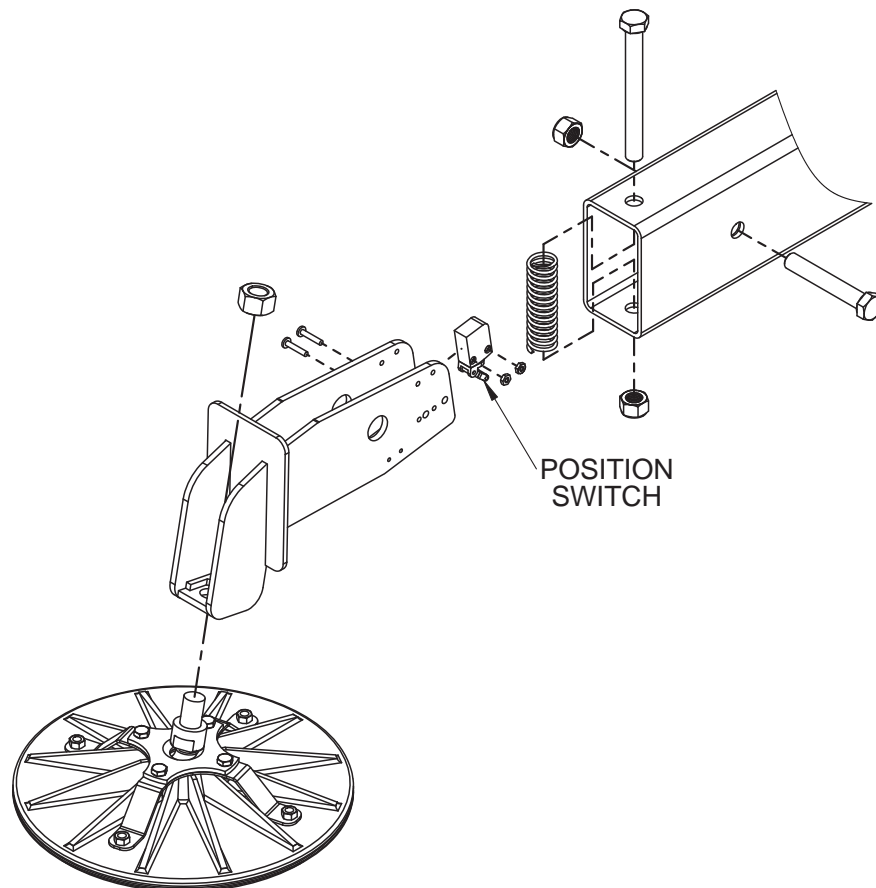

Figure 4-2. Outrigger Position Switch
- Repair or replace as necessary. Refer to Figure 4-2.